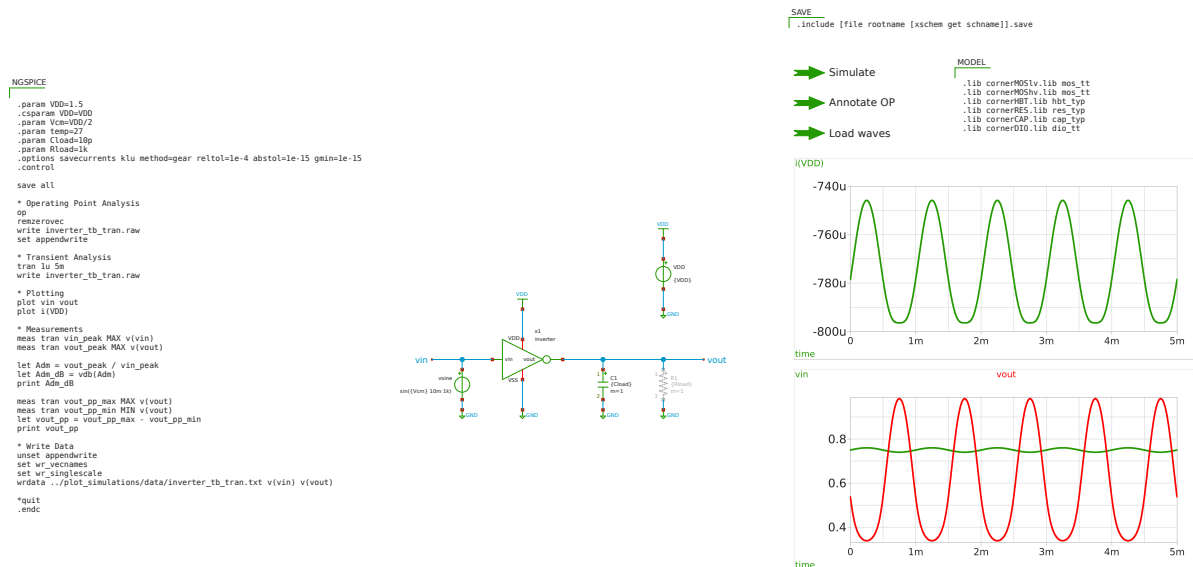

Figure 8: Xschem testbench `inverter_tb_tran` (single-channel transient response on `inverter`).
- inverter\\_tb\\_tran.sch, single-channel transient response (see Figure 8),